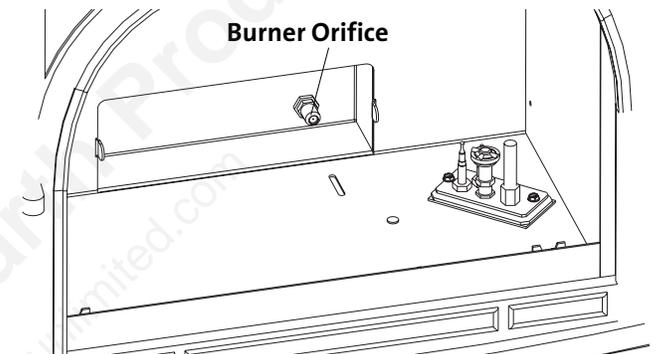

Figure 24. Change the Burner Orifice.
8. **Change the Main Burner Orifice.** See fig. 24. Using a 7/16" open ended wrench or deep-well socket remove the burner orifice from its brass elbow housing and replace with the appropriate orifice supplied in the kit.